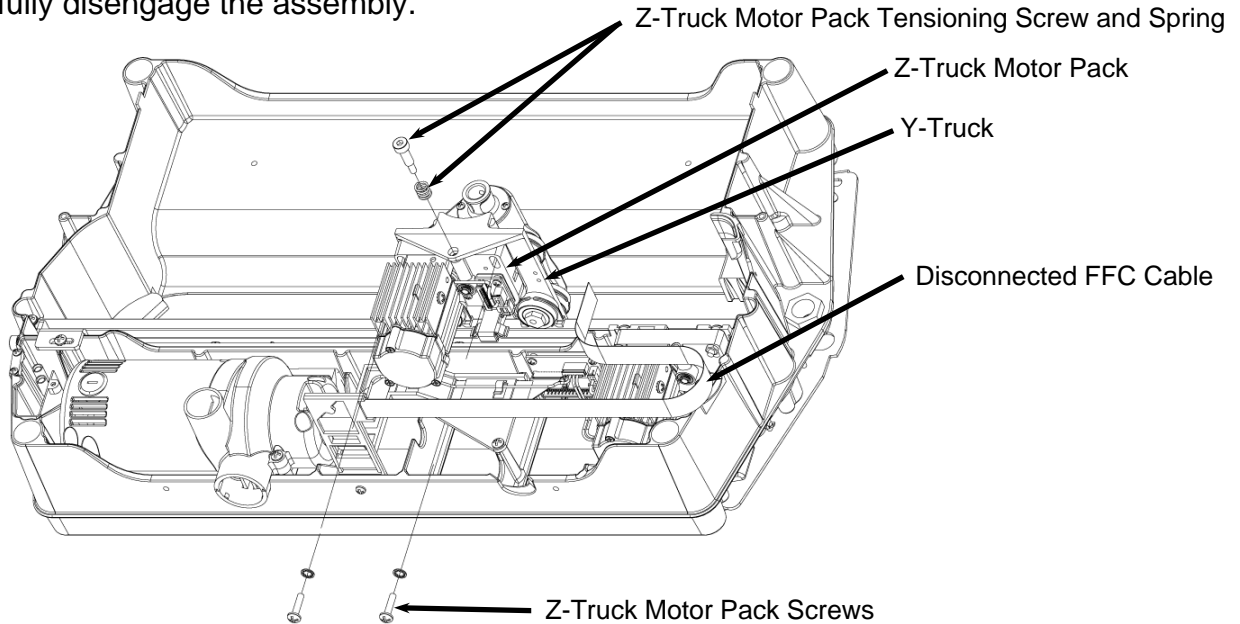

FIGURE 12: VIEW OF THE Z-TRUCK MOTOR PACK REMOVAL
- 1. Re-assemble the new Z-motor pack.** Insert the protruding belt pulley on the Z-motor pack through the slot in the Y-truck and into the top loop of the Z-truck belt. Replace and fully tighten the Z-truck motor pack tensioning shoulder screw and spring with the 4mm Allen wrench (See Figure 12).
2. **Assemble the screws holding the Z-truck motor pack.** Replace and tighten the two screws (with lock washers) that secure the Z-truck motor pack to the Y-truck (See Figure 12). Tighten these two screws as tight as possible by hand. Check again and make sure that the Z-truck motor pack tensioning shoulder screw and spring are in place and tight before tightening these screws fully with a screwdriver. Failing to tighten these screws **AFTER** the Z-truck motor pack tensioning shoulder screw is tightened will result in an incorrect belt tension. Also make sure that all wires are clear of the area. It is possible to pinch the wires coming up from the board sensor when this interface is tightened.